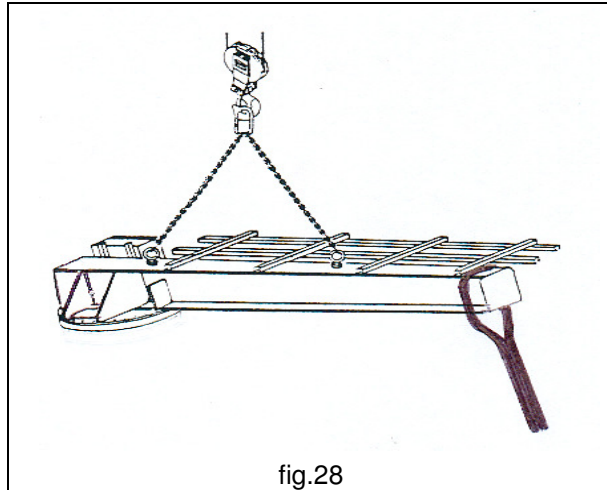

fig.28
3. Avoid oscillations and swinging and, if necessary, to maintain the equilibrium use a rope tied to the ends of the arm. (fig.28)